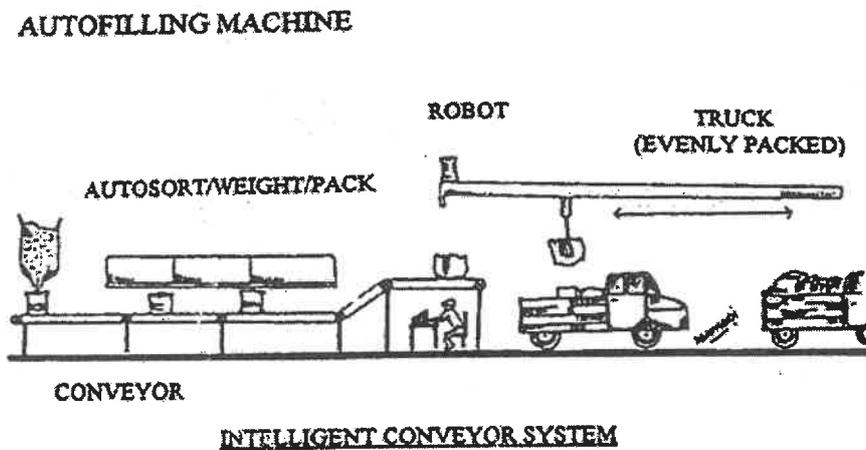

Figure 1
- (b) Describe each of the system functions of a basic automation system to pack and load rice into truck in Figure 1. (4 marks)